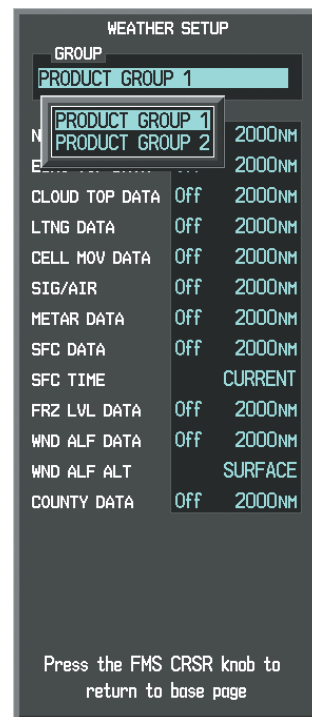

Figure 6-5 Weather Data Link Page Setup Menu
- 4) Turn the small **FMS** Knob to select 'Product Group 1' or 'Product Group 2', and press the **ENT** Key (Figure 6-5).